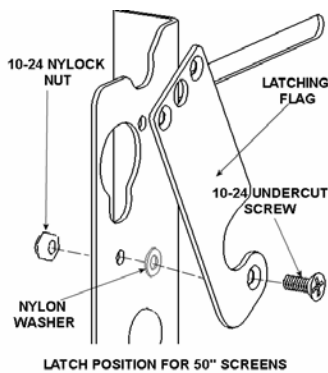

Figure 2
1. Attach latching flag to mount using the 10-24 Phillips head screw, the Nylon washer, and the Nylock nut (see Figure 2). Tighten until friction will hold the flag in place.